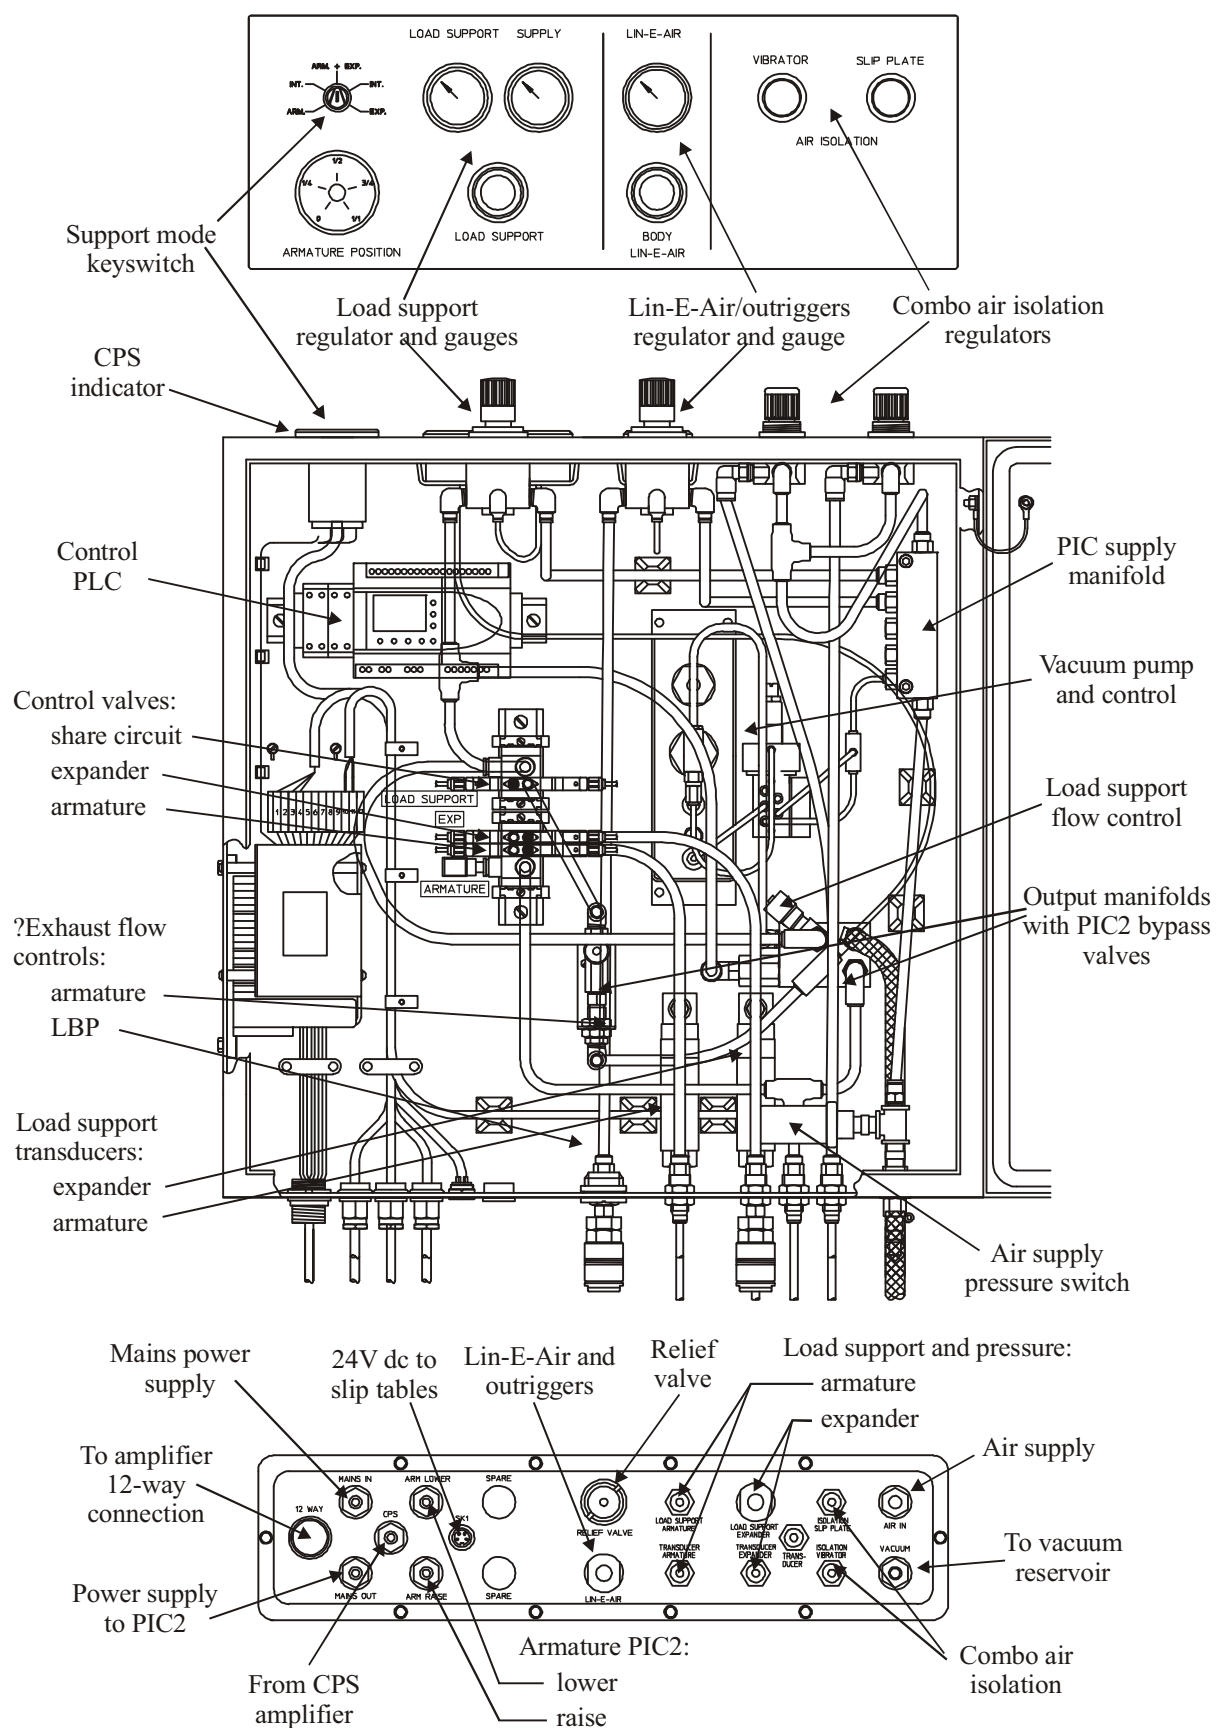

Figure 5 Pneumatics and servo box
2. Relieve any pressure in the the pneumatics and servo box (see Figure 5) by pressing the red button in the base. Open the box.